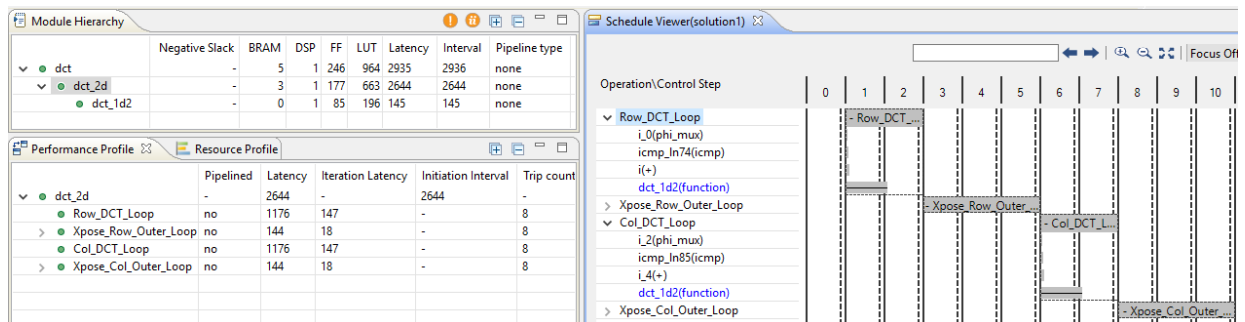

Figure 6-11: DCT\_1D Schedule Viewer
Again, you can see a number of loops (shown in Figure 6-11). Loops ensure the design will have small area but the design will take multiple iterative states to complete. Each iteration of the loop will complete before the next iteration starts.
- Click loops **Row\_DCT\_Loop** and **Col\_DCT\_Loop** of the dct\_2d block in the Schedule Viewer to fully expand them, as shown in Figure 6-11.
- Expand the loops in the **Performance Profile** and **Schedule Viewer** to see the view shown in Figure 6-11.
In Figure 6-11 you can see a series of loops (Row\_DCT\_loop, Col\_DCT\_Loop) that can be pipelined.